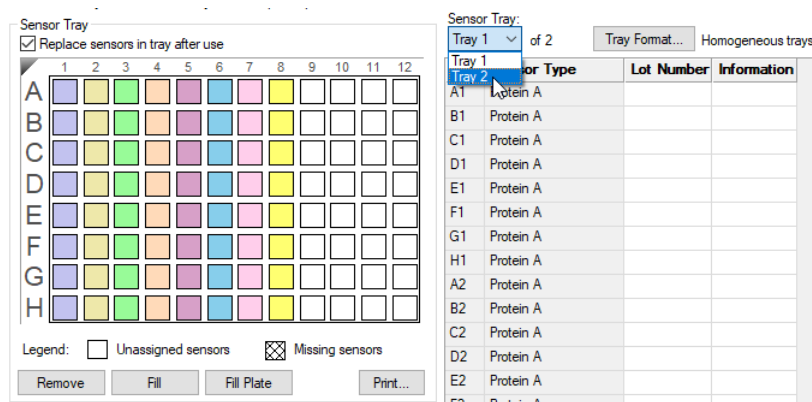

Figure 6-47: Replace Sensors in Tray After Use Check Box
- Optional: After an assay is completed, the biosensors can be returned to the biosensor tray or ejected through the biosensor chute to an appropriate waste container. To return the biosensors to the tray, click the **Replace sensors in tray after use** check box (see Figure 6-47).